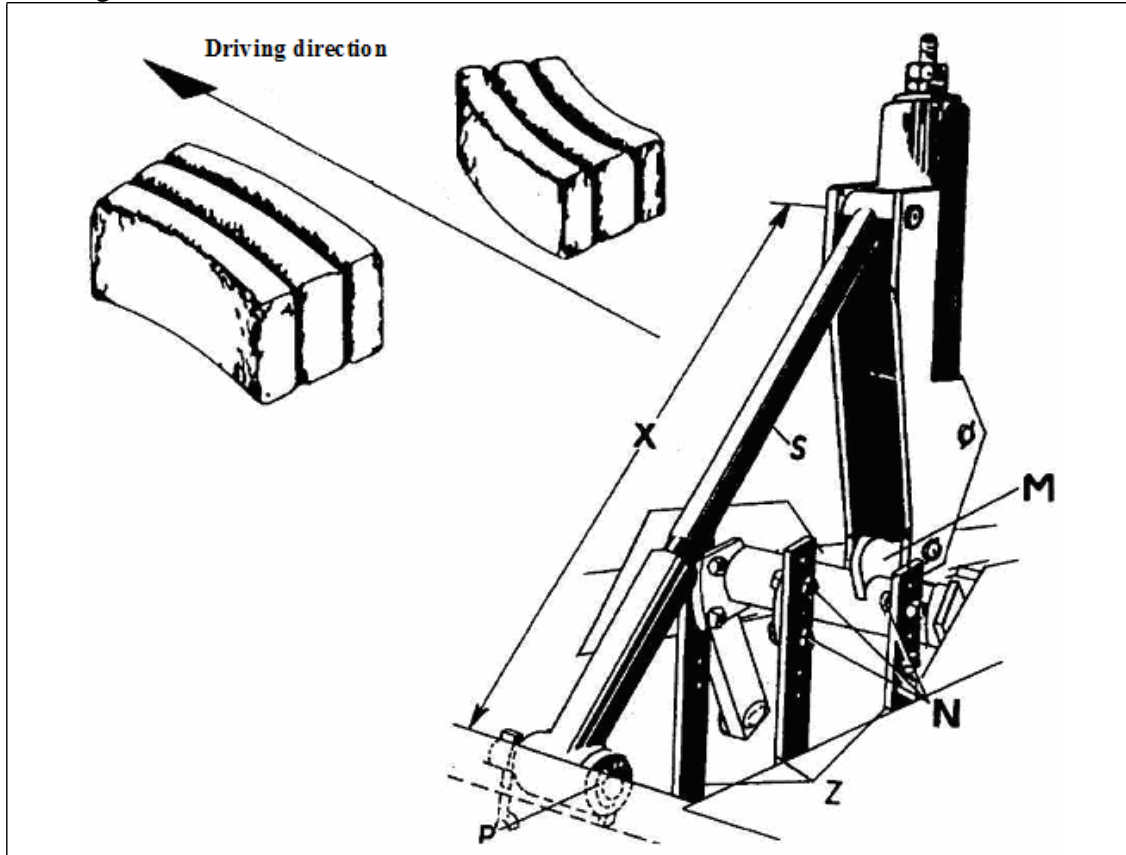

Fig. 43 Regulation of the feeder.
-bale curving to the left Fig.43; screw out adjusting lever S, increasing X value in this way or lower finger Z